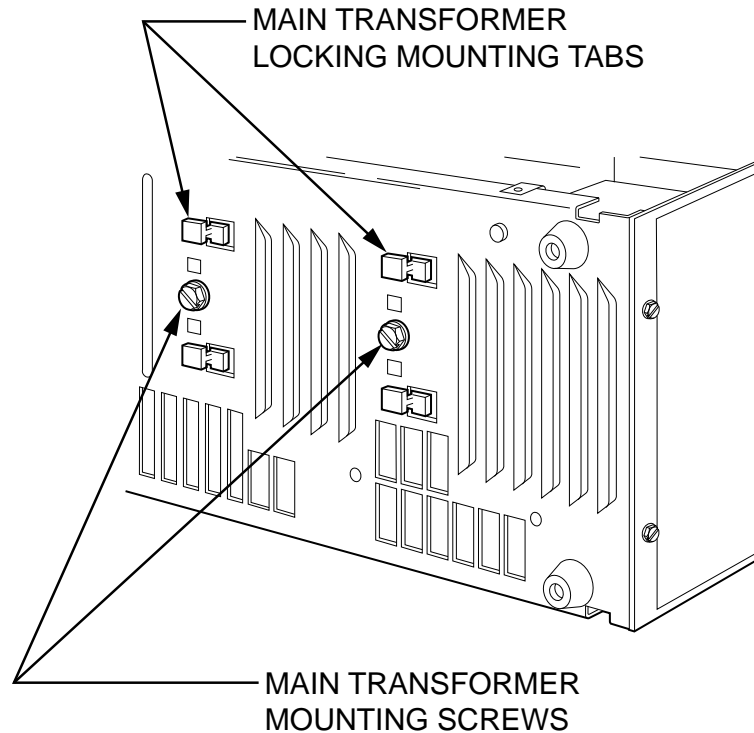

Figure F.22 Main Transformer Mountings
13. With 3/8" wrench remove the two screws mounting the transformer assembly to the base of the machine. See **Figure F.22**. Note: The machine will have to be tilted on its side to gain access to the bottom of the unit.